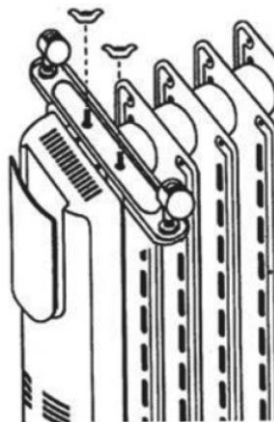

Fig. 3
4. Tighten two finger nuts on one side and two finger nuts on the other – in clamp extensions passed through the wheel plate supports, after making sure that 2 openings in the wheel plate match together with the clamp extensions (see Fig. 3).